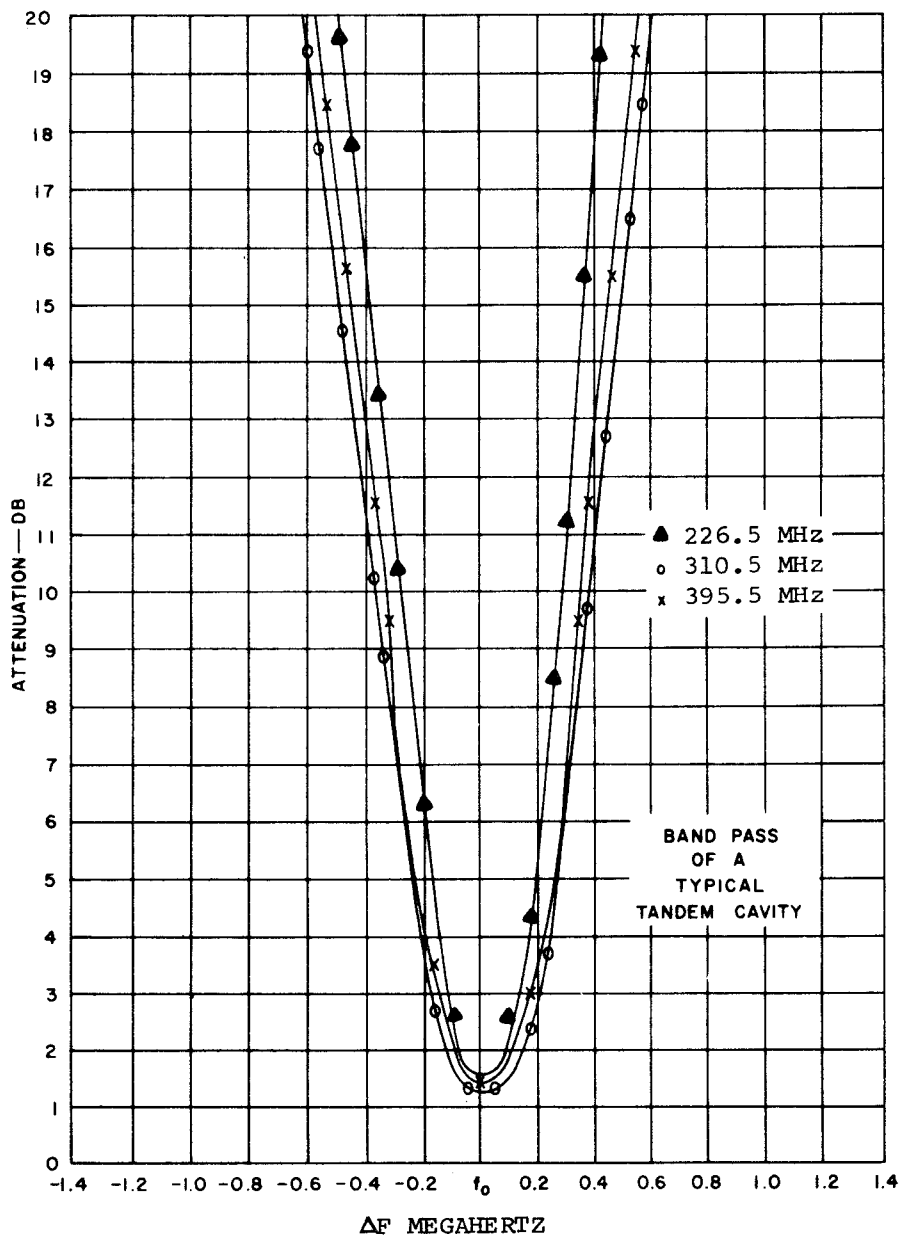

Figure 2-9 Antenna Coupler Dual-Cavity Resonator Selectivity Curves
q. SELECTIVITY. - See Figure 2-9.
- (1) 1.5 MHz channel separation -20 dB.
- (2) 3 MHz channel separation -40 dB.
- (3) 10 MHz channel separation -60 dB.